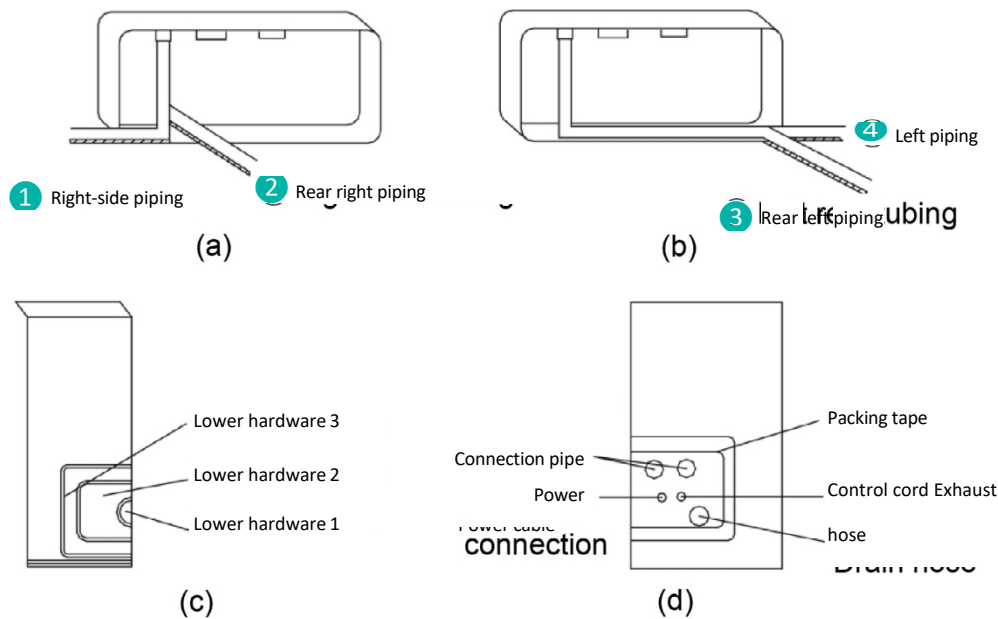

Fig. 5.6
- 1 When installing piping and wiring on the left or right side of the indoor unit, it is necessary to cut the pipe openings on the left side of the unit bracket. (See Fig. 5.6)
- 2 Feed the piping and cable through the piping opening after securing them (see Fig. 5.6 (d)).